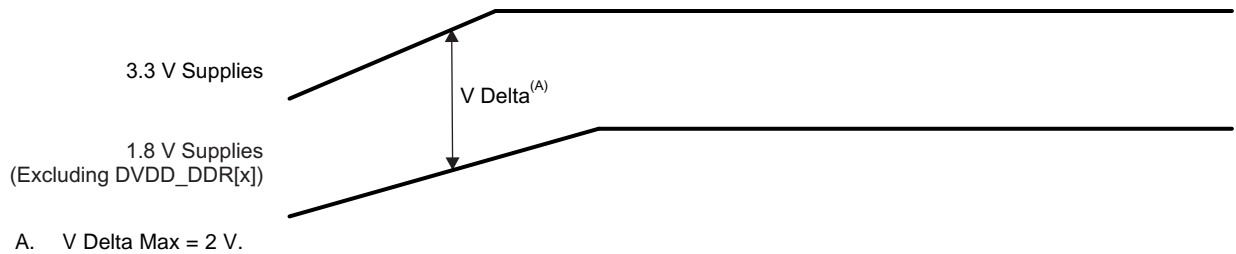

Figure 7-2. 3.3 V Supplies Rising Before 1.8 V Supplies Delta
(1) The 3.3 V supplies **must** never be more than 2 V above the 1.8 V supplies (see Figure 7-2).
(2) The 1.8 V supplies **must** be  $\geq$  1.5-/1.8-V DVDD\_DDR[x] and CVDD, CVDD\_x variable supplies.
- (1) The 1.8 V supplies **must** be  $\geq$  1.5-/1.8-V DVDD\_DDR[x] and CVDD, CVDD\_x variable supplies.
(2) The 3.3 V supplies **must** never be more than 2 V above the 1.8 V supplies (see Figure 7-2).